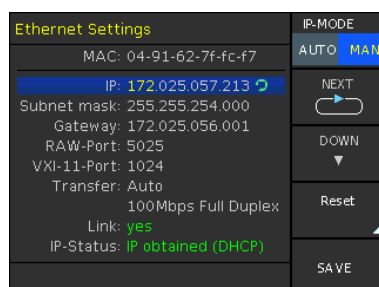

Figure 3-2: Ethernet settings dialog
3. **NOTICE!** If the R&S NGC100 cannot obtain an IP address automatically, or cannot establish the connection, the "Link" status shows "no" in the Figure 3-2. Possible reasons are that the LAN does not support DHCP or requires a specific TCP/IP configuration, or that the connection is missing.
If switched on and connected, the R&S NGC100 indicates the address information and LAN parameters in the Ethernet setting dialog. See Figure 3-2.